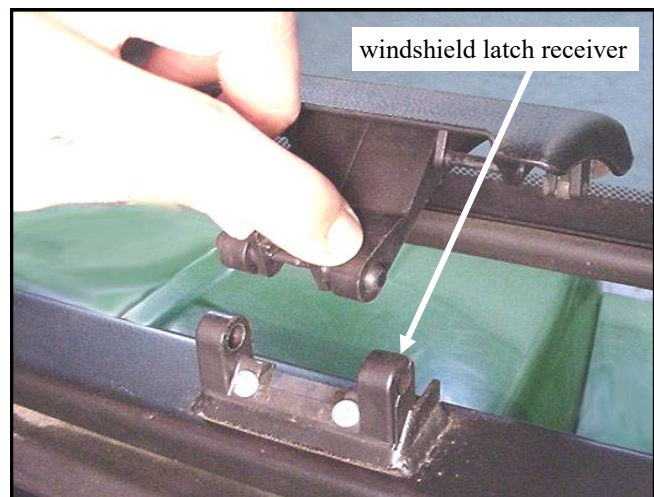

Fig. 13.3
13.3 Attach windshield latches to windshield latch receivers on the cowl by squeezing tabs to retract spring-loaded pins. See fig. 13.3. Lift up on bottom of windshield while closing latches. Check alignment of windshield with vertical side frame tubing and tighten hinge hardware. **Note: hinges are plastic components. Do not overtighten. Torque to 7 ft./lbs. max..**